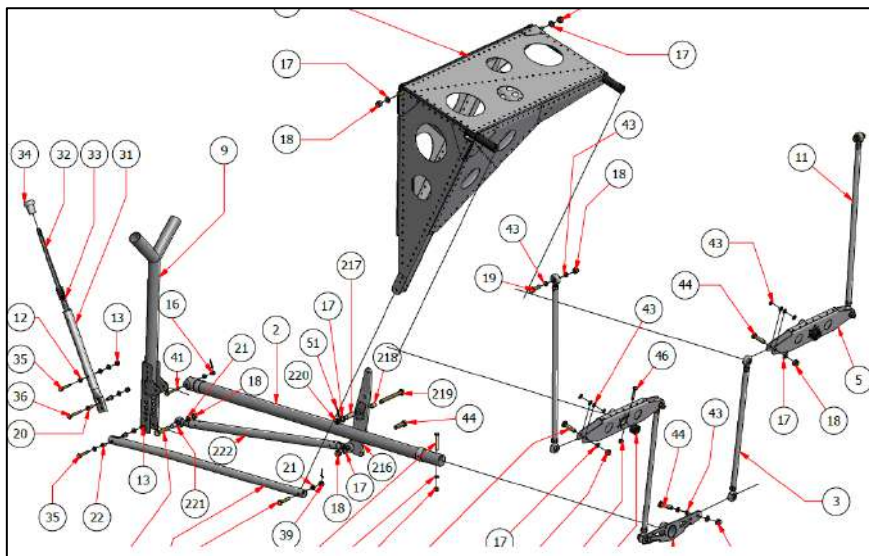

Figure 20: Longitudinal and lateral controls
**LATERAL:** the Flaperon are connected entirely by means of push-pull rod, which +/-15.5° of rotation. The flap function is assured by the mechanical mixer shown in *Figure 20*, with 27° of down rotation.